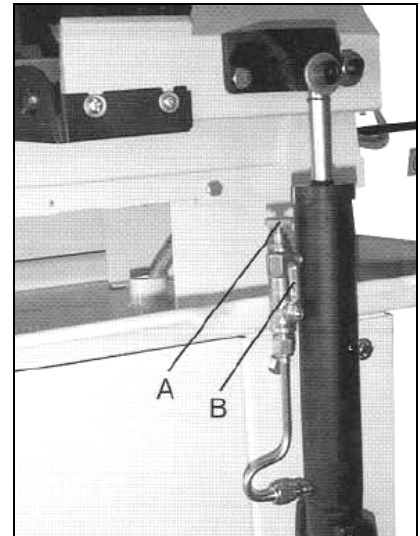

Fig 14
You can control the sawblade downward feeding with the valve control knob (A, Fig 14) and lock the saw with the on/off valve (B).